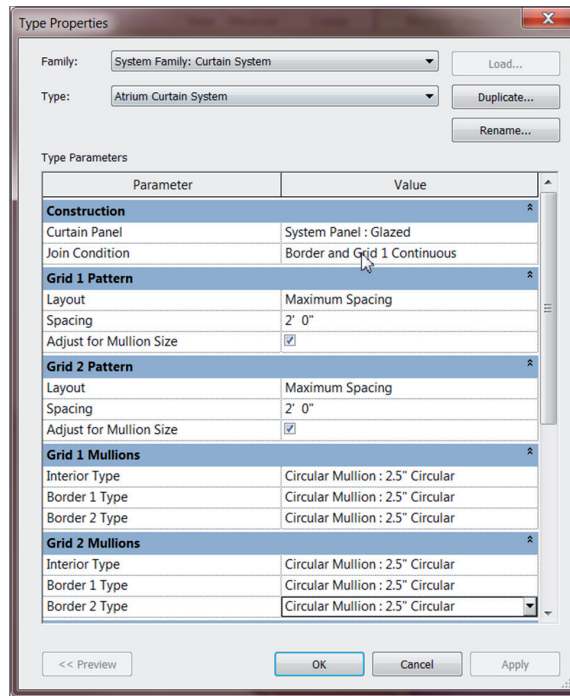

FIGURE BC1.49: Configuring the curtain system
9. For the Grid 1 and Grid 2 mullions, select Circular Mullion : 2.5" (50 mm Radius) Circular for Interior Type as well as the Border 1 and 2 types, as shown in Figure BC1.49.